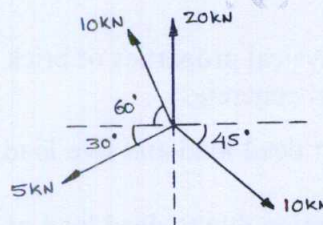

Fig. Q8(b)
b. Determine magnitude and inclination of resultant for the shown Fig. Q8(b) by graphical method. (12 Marks)